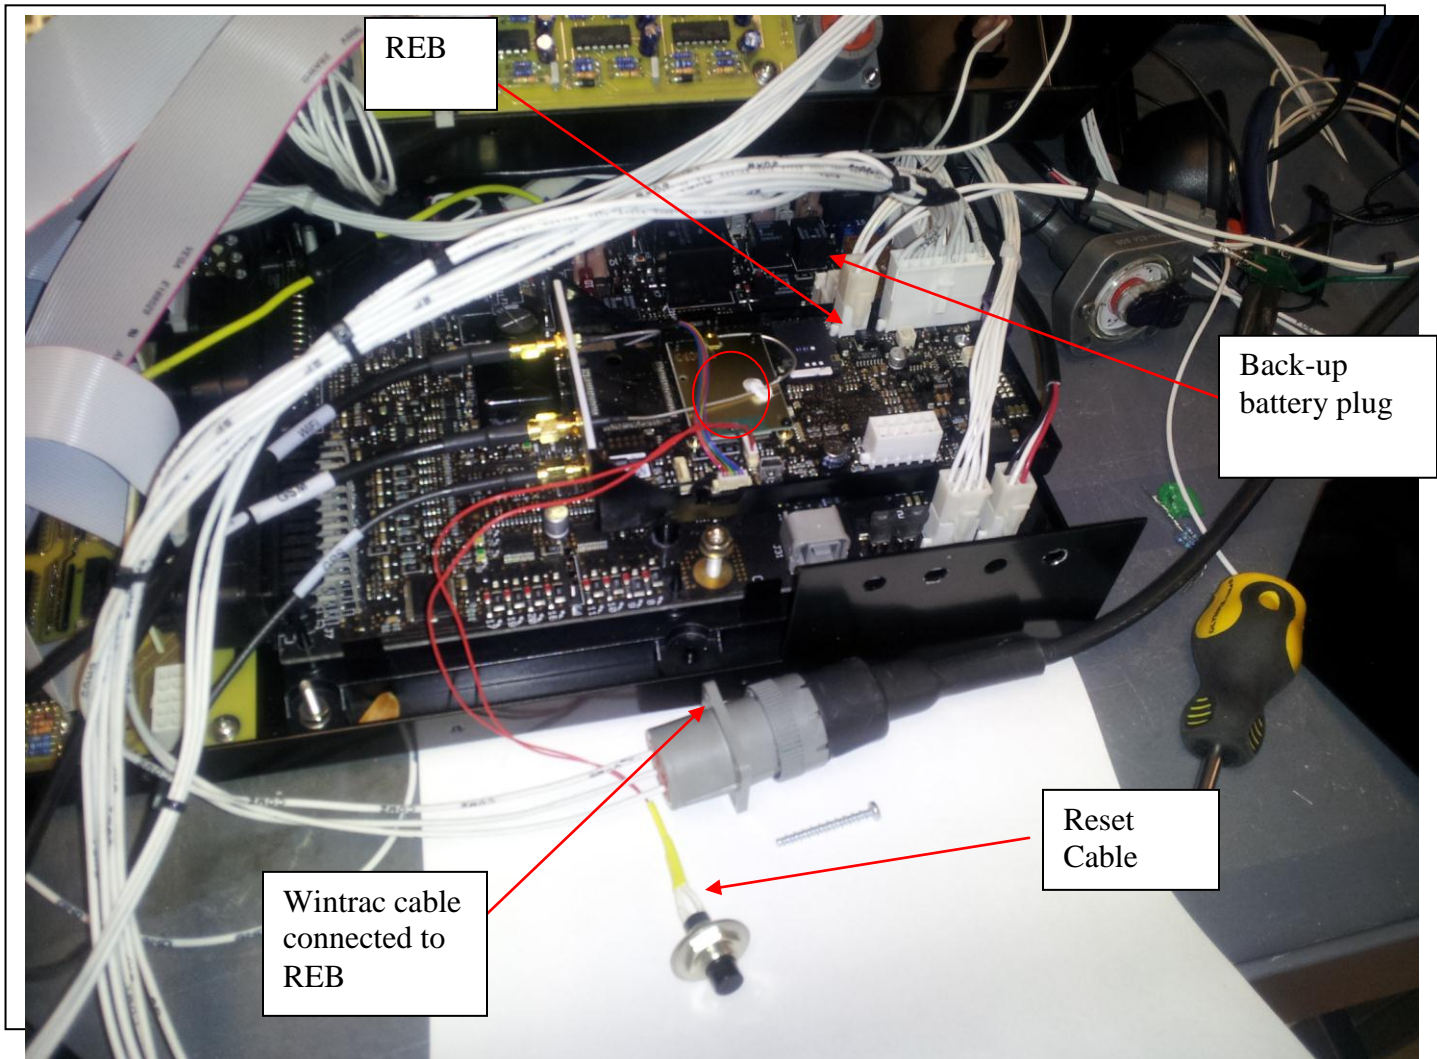

Figure 1.
- a) Connect Wintrac cable to the REB adapter cable as shown in figure 1.
- b) Connect reset cable as shown in figure 1.